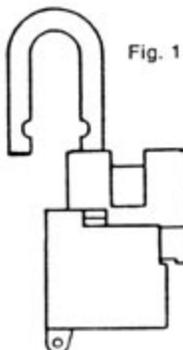

Fig. 1
3. Slide the upper case and lower case apart. Set the upper case aside. (See Fig. 1)
5. Slide the upper case assembly back on to the lower case. (See Fig. 1)